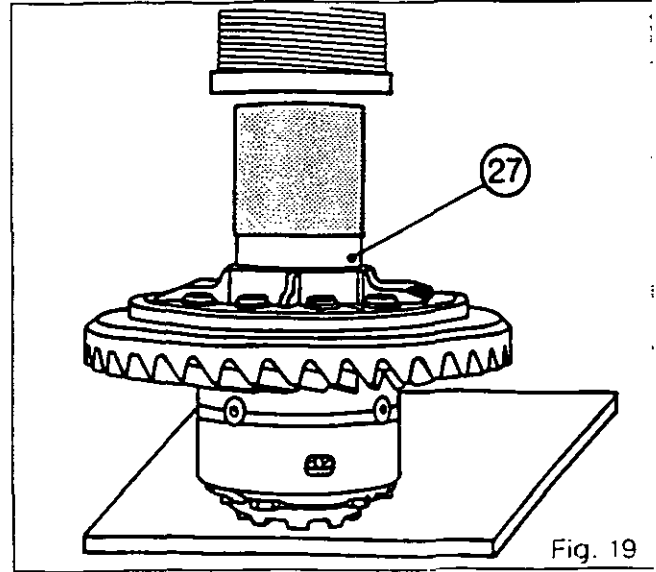

Fig. 19
73. Push the bearing cup (27), the bearing cones (17) and (28) against the shoulder with the aid of a press and a suitable device (Figs. 19 - 20 - 21).